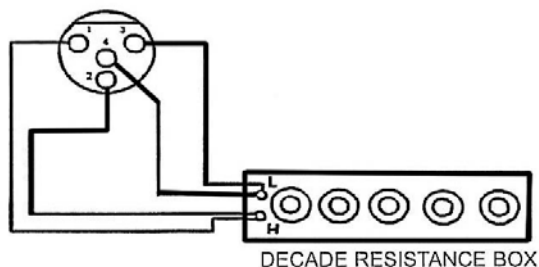

Figure 4. Connections for Performance Verification and Calibration
1. Connect the precision resistance box to the instrumentation connector as shown in Figure 4. Plug the connector into the instrument.
1. Connect the precision decade resistor box to the instrument as shown in Figure 4.